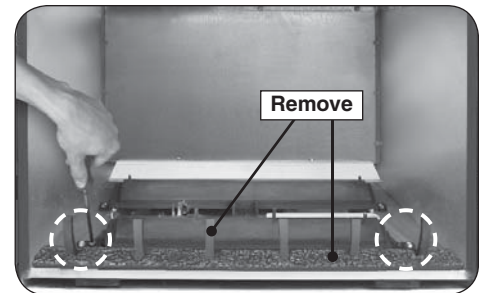

Fig. 31-2 Remove grate & front floor panel
3. Remove the grate. Use a $\frac{5}{16}$ " nut driver to remove the two hex screws found on each side of the grate. Then remove the front floor panel. See Fig. 31-2.